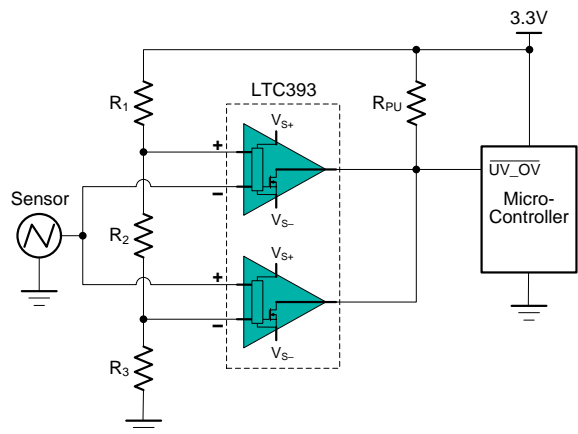

Figure 6. Window Comparator
Window comparators are commonly used to detect undervoltage (UV) and overvoltage (OV) conditions. Figure 6 shows a simple window comparator circuit.
Configure the circuit as shown in Figure 6. Connect  $V_{S+}$  to a 3.3-V power supply and  $V_{S-}$  to ground. Make  $R_1$ ,  $R_2$  and  $R_3$  each 10-MΩ resistors. These three resistors are used to create the positive and negative thresholds for the window comparator ( $V_{TH+}$  and  $V_{TH-}$ ). With each resistor being equal,  $V_{TH+}$  is 2.2 V and  $V_{TH-}$